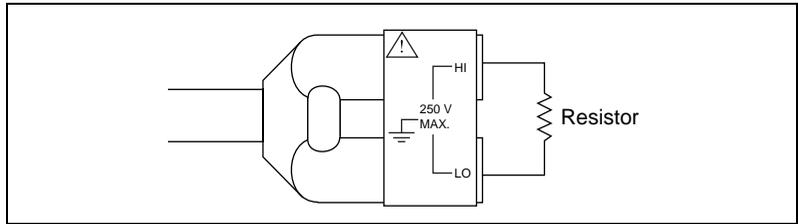

Figure 1-5. Connections for Resistance Measurement
| Figure 1-5. | Connections for Resistance Measurement | 1-7 |
1. Connect the test probes to a resistor as shown in Figure 1-5. To accurately measure the value of a resistor, make sure the resistor is not connected to any other circuits. Erroneous or misleading readings may result if the resistor you are measuring is connected to external circuits that supply voltages or currents or to external circuits that change the effective resistance of that resistor.